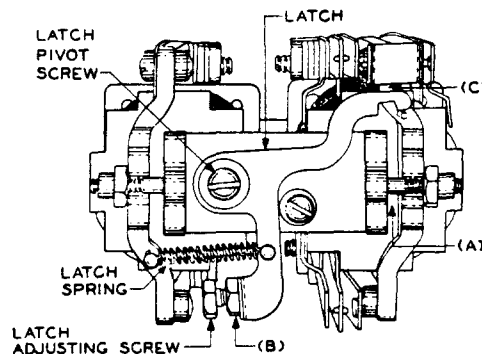

Fig. 105
- 2.09 Armature Travel:** Fig. 105(A) — The armature travel shall be in accordance with the value specified for the relay in the "Arm. Trvl." column of the circuit requirement table. The tolerance for test shall be  $+0.005$  inch,  $-0.0025$  inch and for readjust  $+0.0025$  inch,  $-0.0025$  inch.